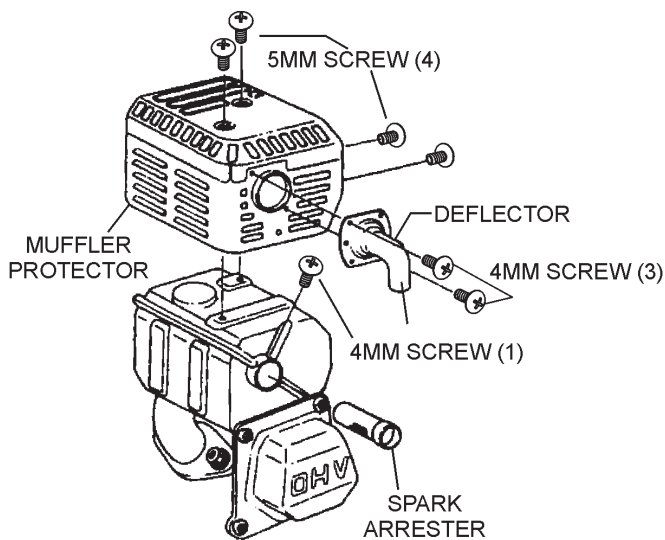

Figure 31. Spark Arrester Removal
1. Remove the 4 mm screws (3) from the exhaust deflector, then remove the deflector. See Figure 31.
2. Remove the 5 mm screws (4) from the muffler protector, then remove the muffler protector.